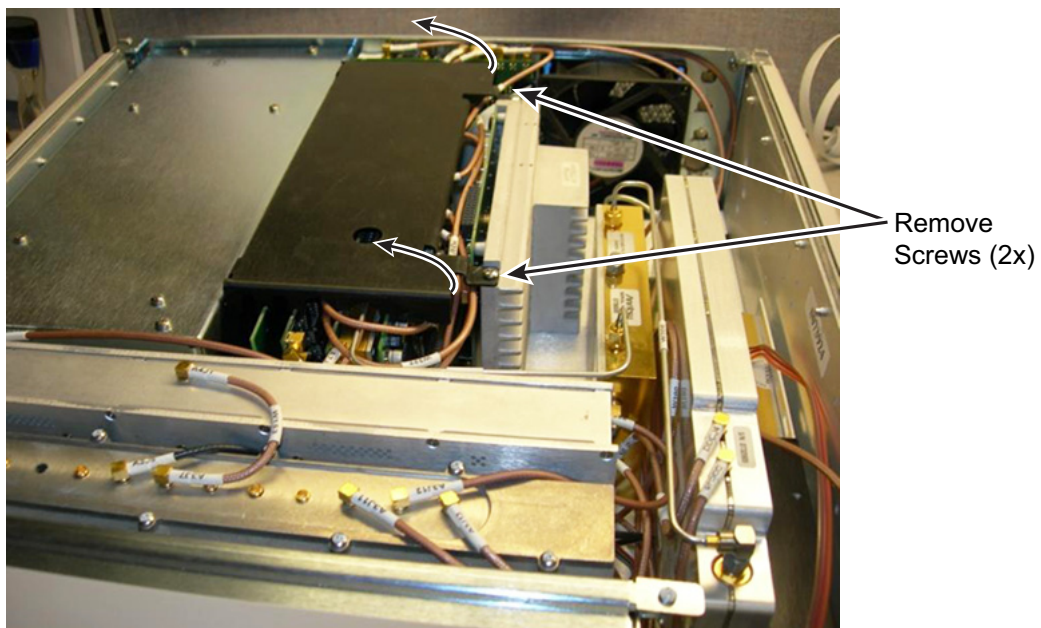

Figure 7-9. Card Cage Cover Removal
1. Use a Phillips screwdriver to remove the two screws that secure the card cage cover (Figure 7-9).
3. After ensuring the cover is properly installed, insert and tighten the two PCB cover screws (Figure 7-9 on page 7-15).